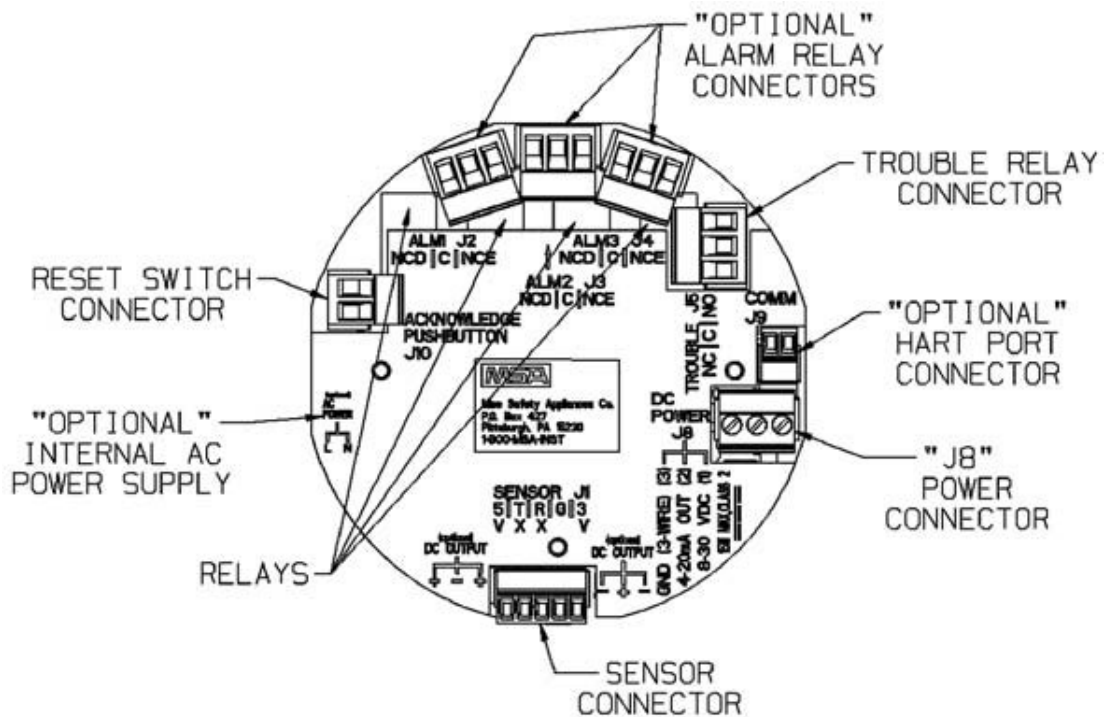

Fig. 17 Three-Wire Printed Circuit Board (with HART Protocol)
- (1) Connect 8-30 VDC power lead to J8-1 (see Fig. 17)
- (2) Connect J8-2 to the 4-20 mA input on the remote system.
- (3) Terminate the 4-20 mA line with 230-500 Ohms of resistance.
- (4) For three-wire operation, connect the signal ground to J8-3.
- (5) Connect the sensor module to main pc board connector J-1.
- (6) Wire for optional relays, if applicable (see 6 "Appendix A, Optional Features").
- (7) Assemble lid on the enclosure.